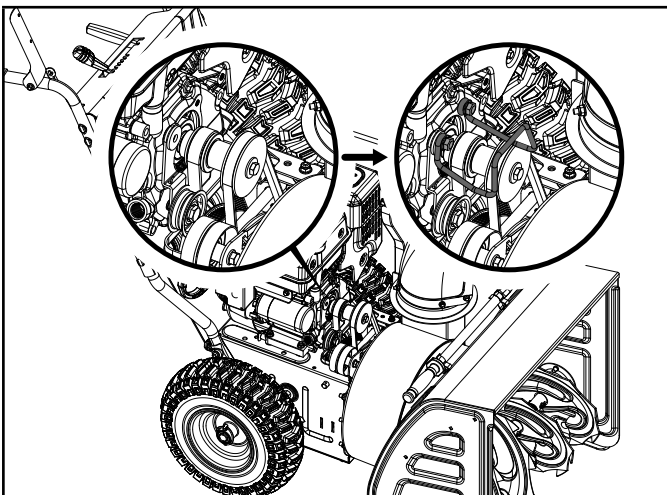

Figure 46
9. Place the belt guard back into place and install the bolts (20 mm/30 mm) that were removed earlier. Once reinstalled, make sure there is equal distance on both sides between the pulley and the guard (Fig. 46).